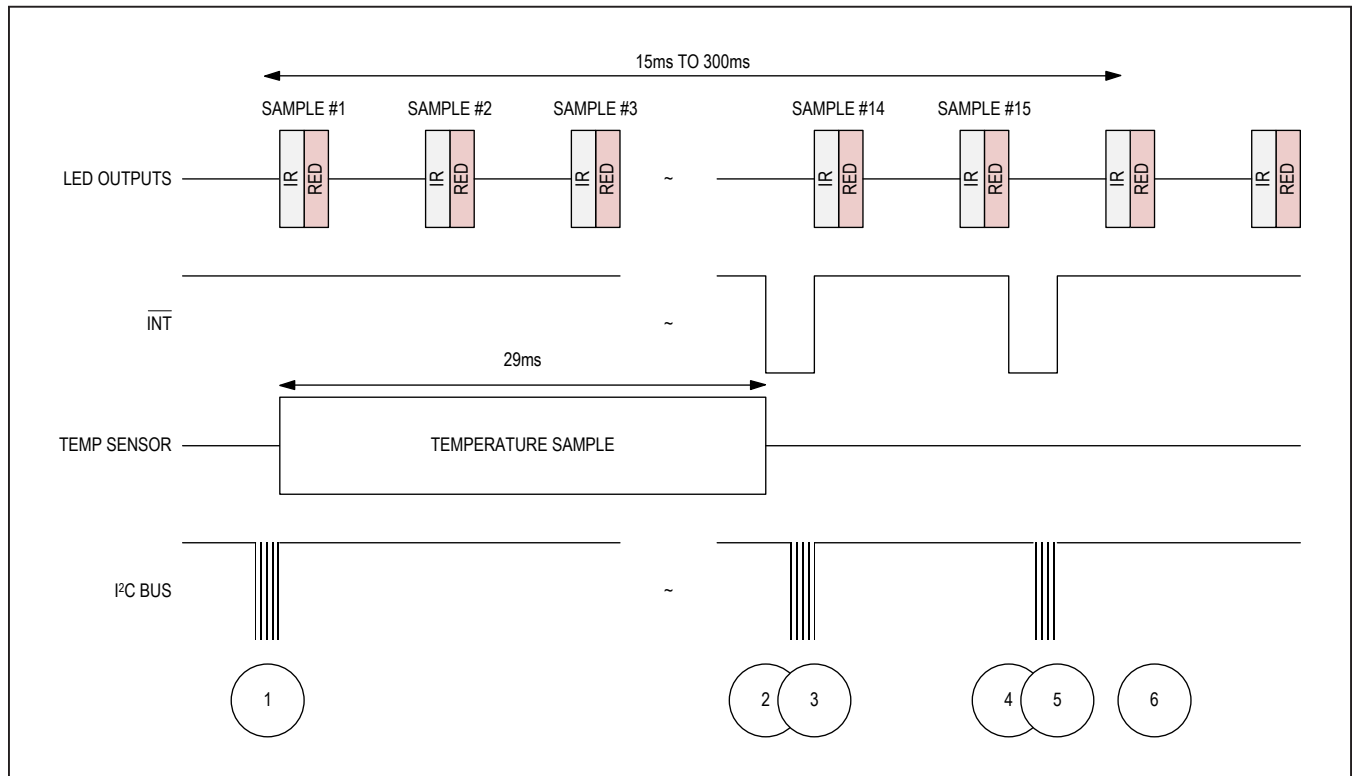

Figure 3. Timing for Data Acquisition and Communication When in SpO2 Mode
**Table 15. Events Sequence for Figure 3 in SpO2 Mode**